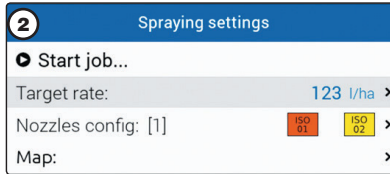

Fig. 271
- 2 Check the **Spraying settings** in Fig. 271; modify them if necessary.